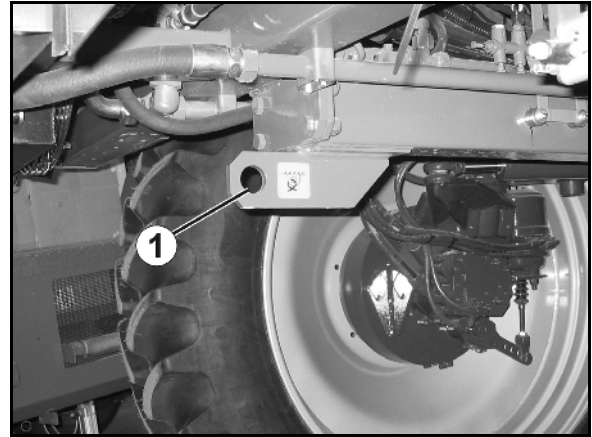

Fig. 3
- 1 Front lashing point (Fig. 3/1)